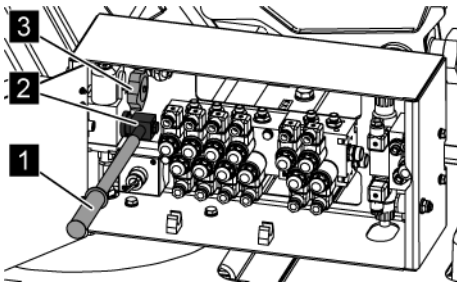

Fig. 168: Hand pump
7. → Connect the hand pump lever (Fig. 168/1) to the hand pump (Fig. 168/2).
The hand pump lever (Fig. 168/1) is situated in the hydraulic control box.
8. → Make sure that the hand wheel (Fig. 168/3) on the hand pump (Fig. 168/2) is closed.
Actuate the desired valve as per  Chapter 6.16.1 'Valve assignment for platform' on page 155 by pushing it in and simultaneously pump up and down with the hand pump (Fig. 168/1) until the selected actuator has reached the desired position.